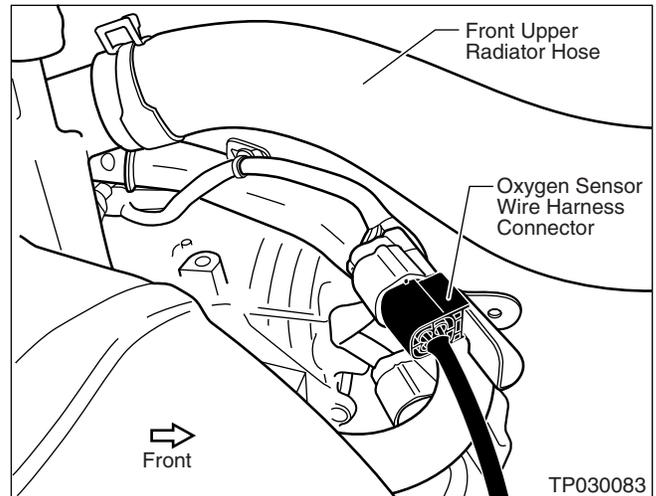

Figure E8
11. Disconnect the Oxygen Sensor Wire Harness Connector (see Figure E8).